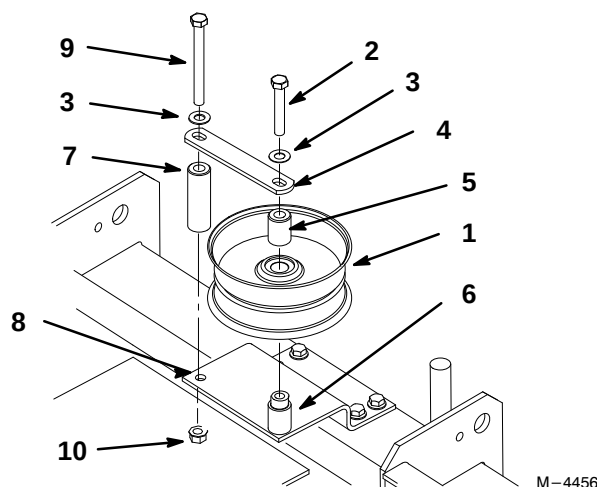

Figure 4
1. Install pulley onto the idler bracket mounting stud (Fig. 4).
2. Install bolt ($\frac{3}{8}$ " x $2\frac{1}{4}$ ") into spring disk washer, belt guide plate and short spacer. Install into the center of mounting stud. Do not tighten (Fig. 4).
4. Install bolt ($\frac{3}{8}$ " x $3\frac{3}{4}$ ") into spring disk washer, belt guide plate, long bracket spacer and hole in idler bracket. Install nut onto bolt (Fig. 4).
5. Tighten both bolts (Fig. 4).